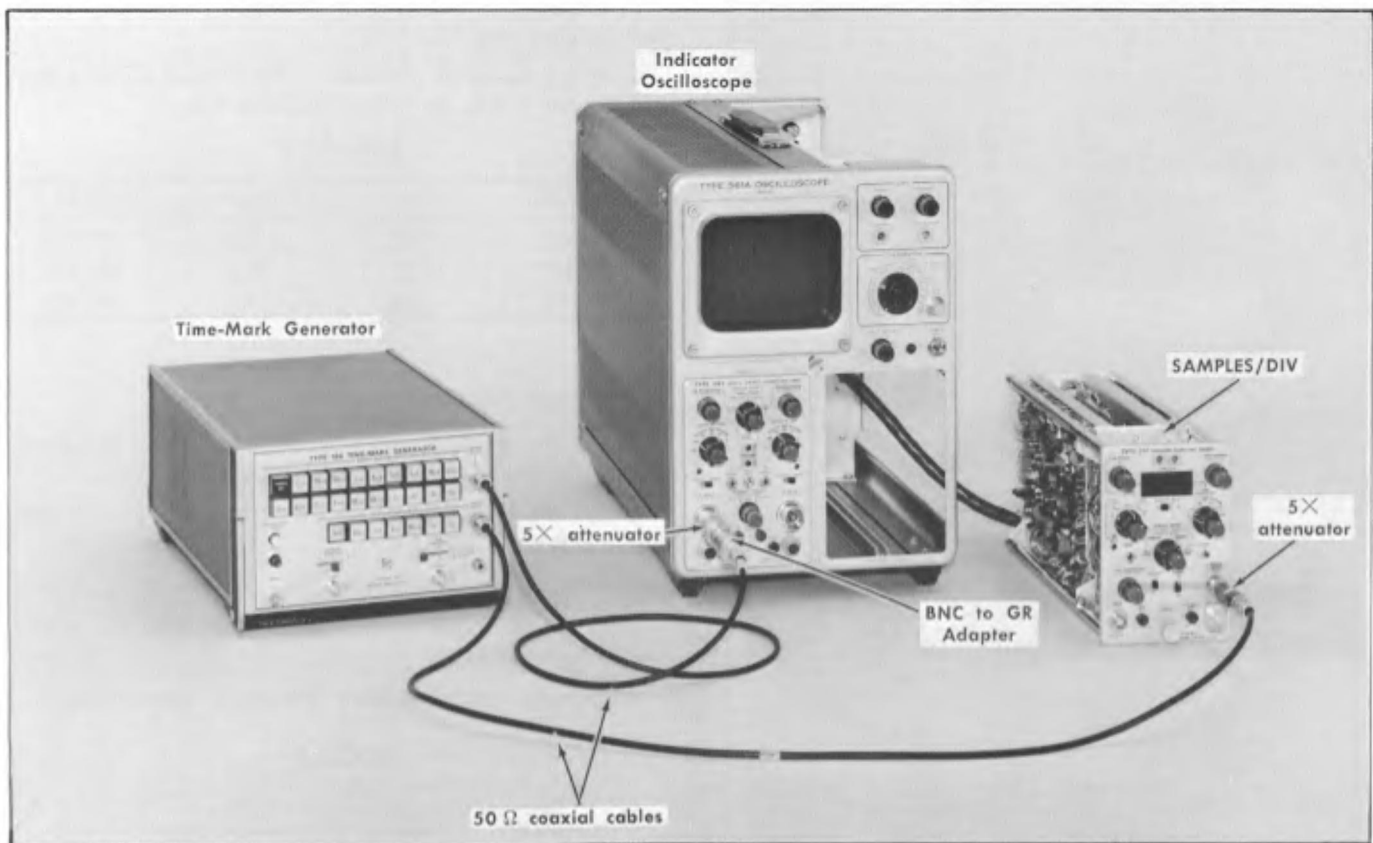

Fig. 7-16. Test equipment setup for steps 14 and 15.
a. Connect the Time Mark Generator Marker Output through a 50  $\Omega$  coaxial cable, a BNC to GR adapter and a 5 $\times$  attenuator to the Vertical Input A connector and connect the Trigger Output through a 50  $\Omega$  coaxial cable and 5 $\times$  attenuator to the 50  $\Omega$  TRIGGER INPUT connector. The equipment setup is shown in Fig. 7-16.